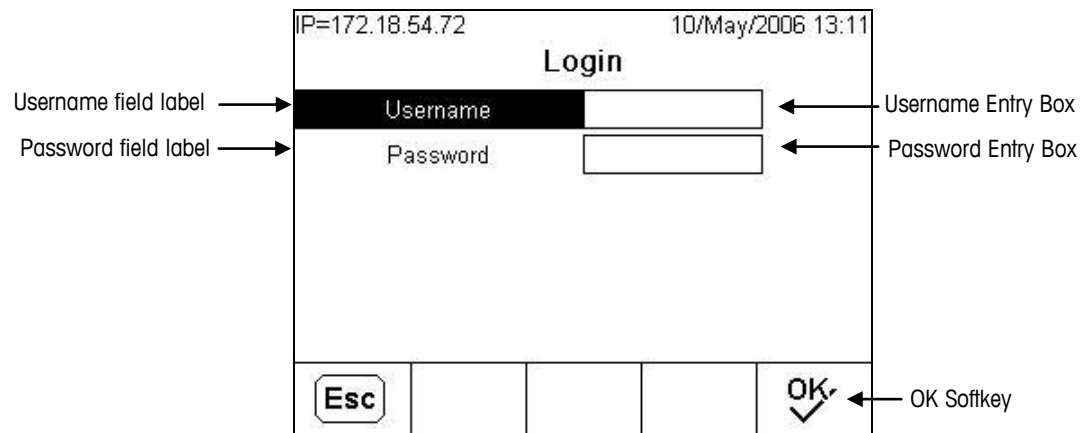

Figure 3-1: Login Screen
- If a password has been assigned to the default Administrator (admin) **and** to the default Operator (anonymous), and the Setup softkey is pressed, a Login screen (Figure 3-1) displays. Use the correct username and password to Log in either as Administrator (to make changes) or Operator (to view setup parameters).
The configuration of the IND780 terminal is accessed through the SETUP softkey . If password security has been enabled, a login screen (Figure 3-1) displays and the user must enter the correct password in order to advance into setup. (See the Security section in Chapter 2.0, Operation, and the Configuration Options, Terminal, Users section of this chapter for further information about password setup and security.) To exit back to the home screen without entering any login information, press the ESCAPE softkey  twice.